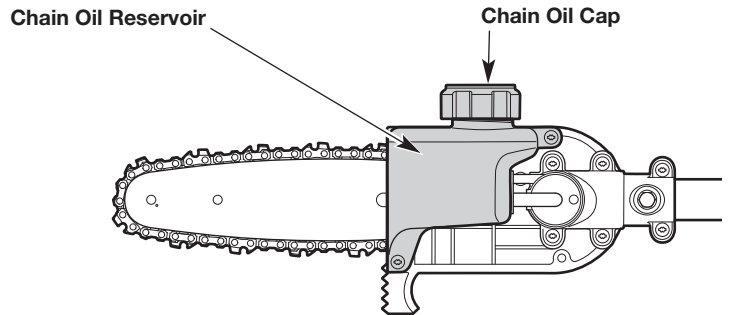

Fig. 10
1. **Set the unit on a flat, level surface. Position the unit with the chain oil cap facing up (Fig. 10).**
2. Make sure that the chain oil reservoir is at least half full (Fig. 10). If the oil level is too low, add bar and chain oil. Refer to *Filling the Chain Oil Reservoir*.
1. Set the unit on a flat, level surface. Position the unit with the chain oil cap facing up (Fig. 10).
3. Unscrew the chain oil cap (Fig. 10).